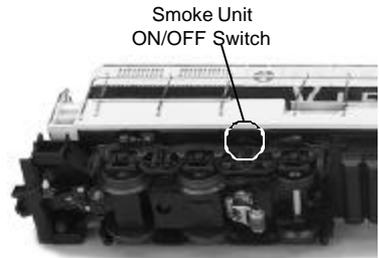

Figure 3. Smoke Unit ON/OFF Switch
- If you choose not to prime the unit with fluid, turn the smoke unit switch located under the engine to the OFF position (see Fig. 3 on pg. 10). Running the engine without a primed smoke unit may cause damage. See the “ProtoSmoke Unit Operation” section of this book for more information on smoke unit maintenance.
If you choose not to add the fluid (or have already added the fluid but choose to run smoke-free), turn off the smoke unit switch located under the engine (see Fig. 3). Failure either to add fluid to the unit or to turn it off may damage the smoke unit heating element and/or wicking material.